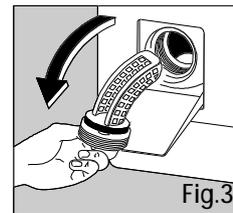

Fig.3
- a. Turn the filter in the anti-clockwise direction and take it out (fig. 3).